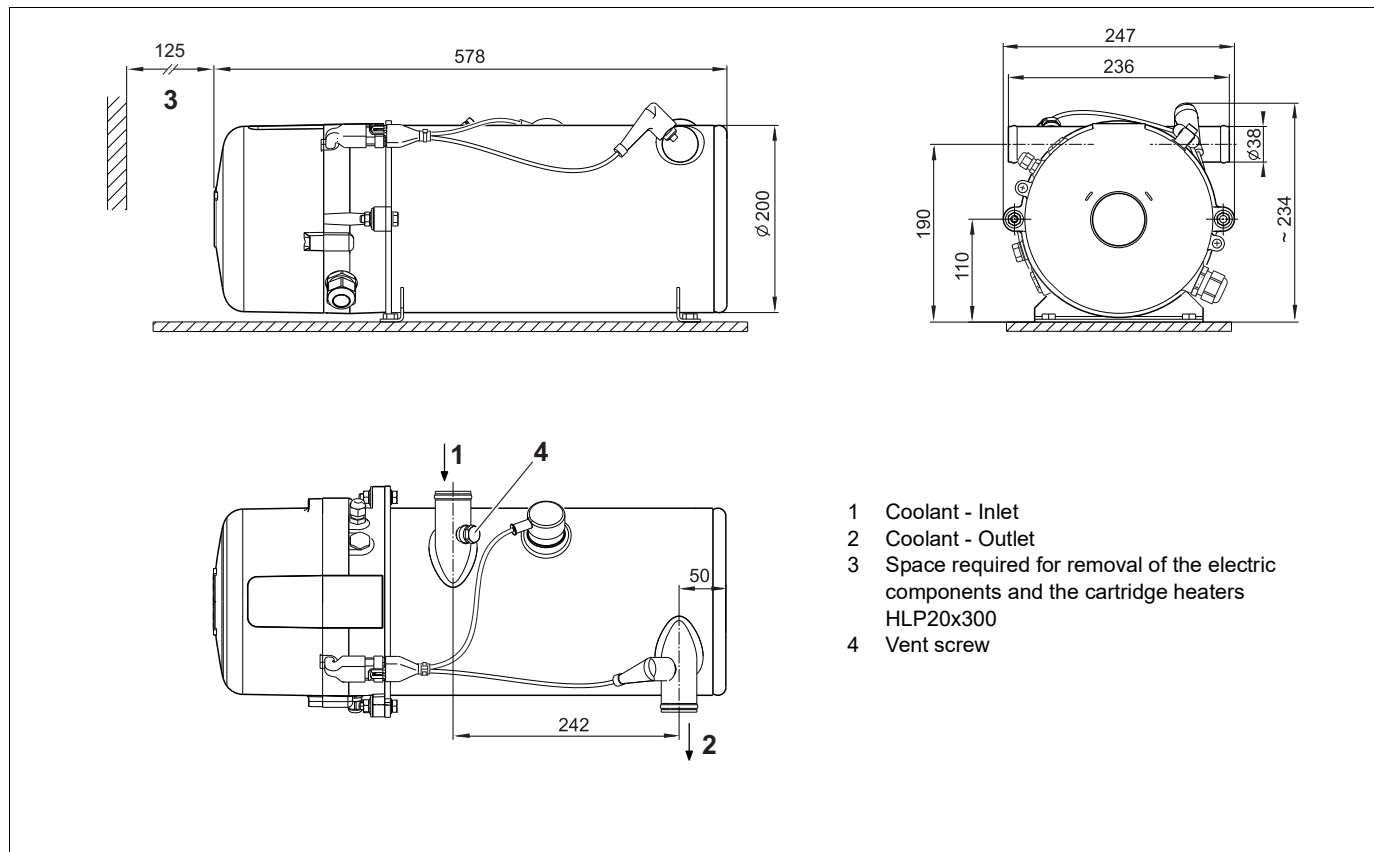

Figure 12: Dimensions of the heating appliance Thermo AC
The dimensions of the heating appliance, the permitted installation locations, and the hole pattern for the fastening can be found in figures 12 and 13.
The heating appliance is connected to the vehicle's cooling system according to figure 12. The volume of coolant fluid present in the circuit must be at least 25 litres. The water in the heating circuit of the heating appliance must contain at least 30 to 60% of a branded antifreeze agent. An up-to-date list of Spheros recommended anti-freeze agents can be found on the Spheros website.
When installing the electric heater the direction of the flow of the cooling water in the circuit is to be considered (see figure 12).
For that the additional venting option via the vent screw item 4, figure 12 is to be used after the system has been filled and the pump has been switched on.